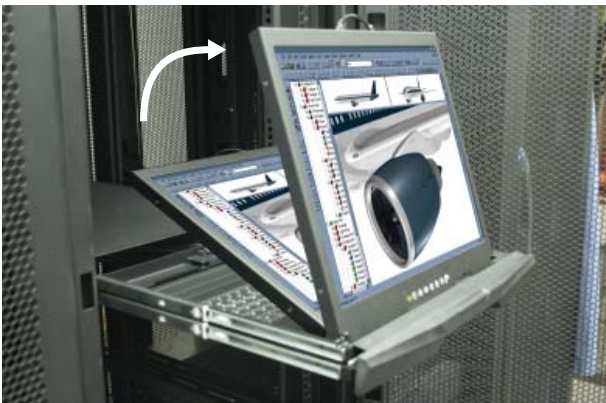

Figure 2. Tilt the LCD to a suitable angle.
- Tilt the LCD to a suitable angle shown in Figure 2.